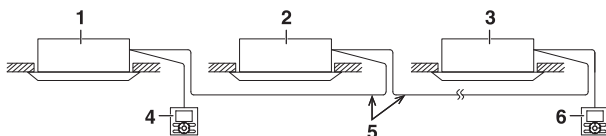

Fig. 31
- When using the group control and the 2 remote controllers control at the same time, connect the remote controller 2 (Sub) to the indoor unit at the end of the crossover wiring (the largest No.). (Refer to Fig. 31)